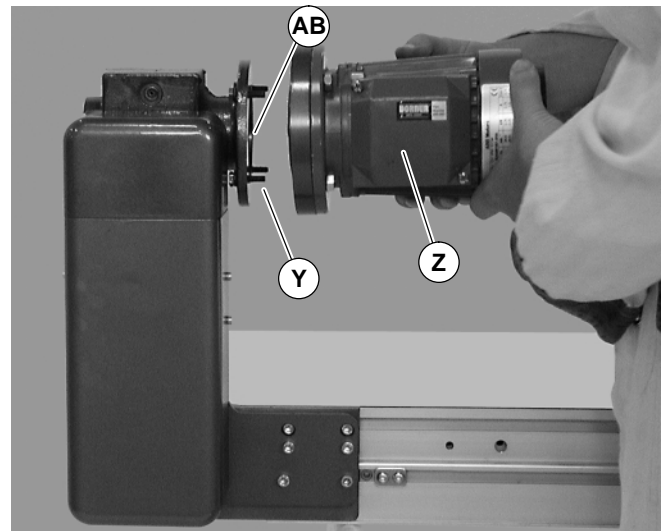

Figure 23
6. With key (AB of Figure 23) in keyway, slide motor with adapter flange (Z) and gear reducer together. Install screws (Y) and tighten.